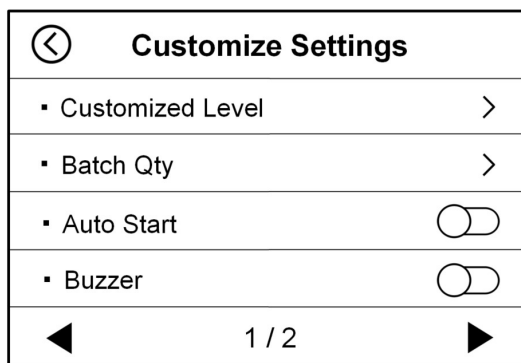

Figure 39
2)在图 39 界面，触摸显示屏右下角“”键进入如图 56 所示的第二页。触摸图 56 界面的“Language”选项进入语言设置界面，如下图 57 所示。
2) In the interface of Figure 39, touch the "▶" key in the lower right corner of the display screen to enter the second page as shown in Figure 56. Touch the "Language" option in Figure 56 to enter the language setting interface, as shown in Figure 57 below.